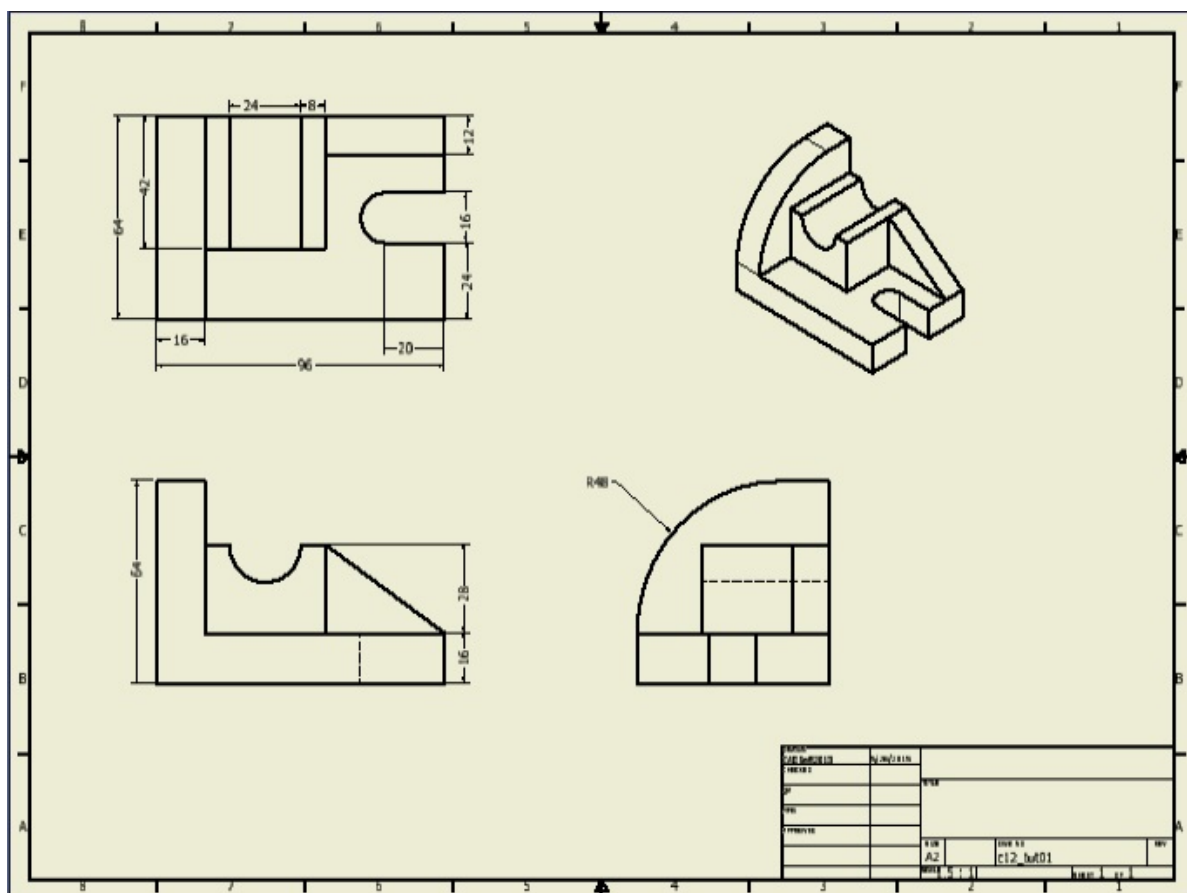

Figure 12-23 Drawing sheet after adding the dimensions
8. Select the dimensions one by one and drag them to place them neatly in the drawing views. The sheet after aligning the dimensions is shown in Figure 12-23.